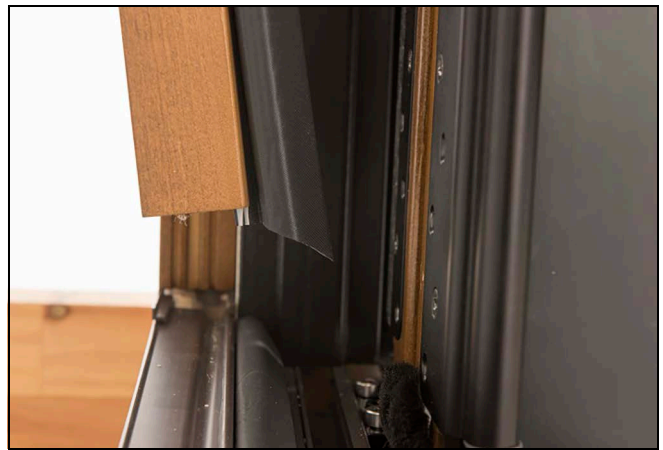
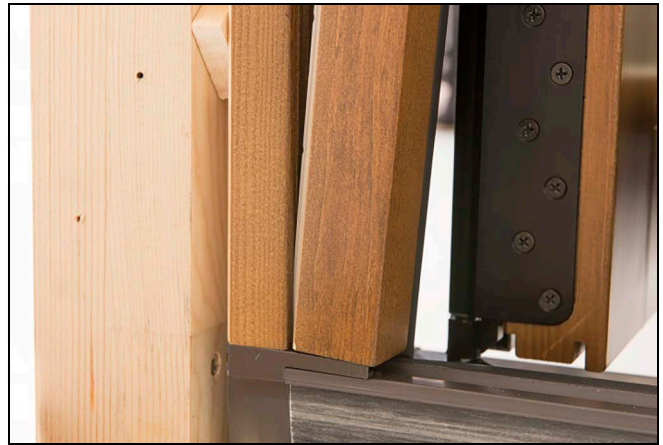

Figure 76
Figure 77
6. Install wood jamb part stops ensuring longer side of weather strip is toward the sill. See Figure 76 and Figure 77.